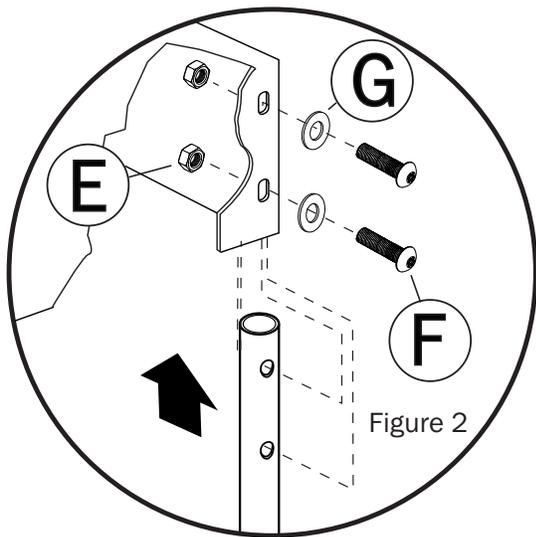

Figure 2
3. Align slots on side of ADA Step(A) with holes in Extension Post(B) and insert (2)Bolts(F) and (2)Flat Washers(G) through holes in ADA Step(A), through Footer Post(B) and secure with Lock Nut(E). See Figure 2.
2. Insert Extension Tube(C) into Mounting Bracket(B). Insert Bolt(H) through larger hole in Mounting Bracket(B), through Extension Tube(C) and secure with Lock Nut (I). See Figure 2.